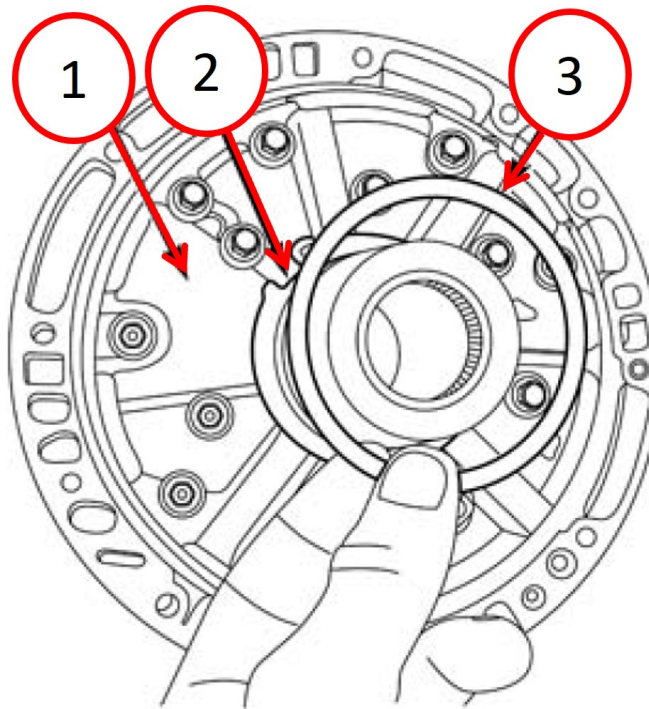

Fig. 12
21. Lubricate with trans jel or petroleum jelly and install the nylon thrust washer onto the oil pump Fig. 12.
NOTE: The nylon thrust washer is keyed to the oil pump Fig. 12.
NOTE: Two pin punches inserted through the oil pump mounting holes will aid in the installation of the oil pump Fig. 12.